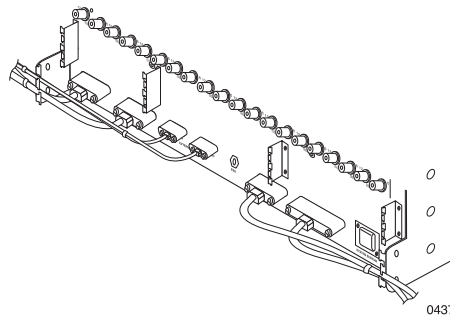

Figure 27 External Timing Cable Routing at the Rear of the Chassis
3. Optional. Connect and route the external timing cables; see Figure 27: